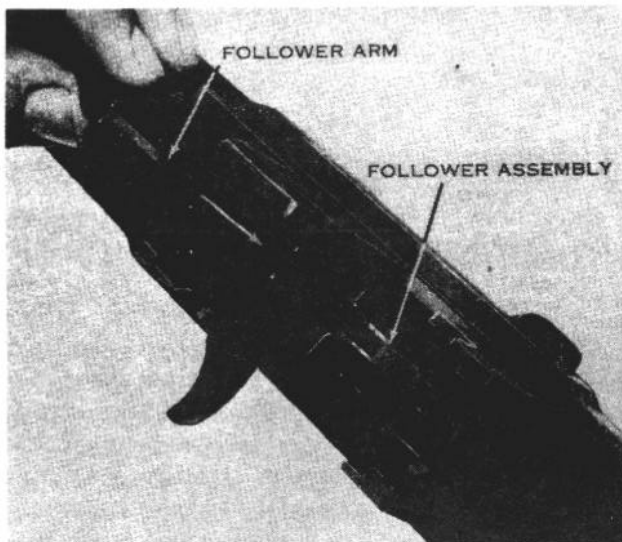

Figure 15. Replacing the follower arm.
h. Replace the follower arm by passing its rear studs through the bullet guide and inserting them into the guide grooves on the follower (fig. 15). Allow the wings of the follower arm to rest astride the toe of the bullet guide. Aline the holes in the operating rod catch assembly, follower arm, and bullet guide with those in the receiver and replace the follower arm pin from the near side.